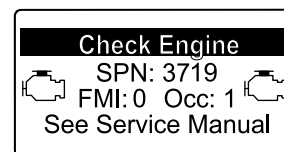

Figure 52
- Engine warning SPN 3719, FMI 0 (Figure 52)